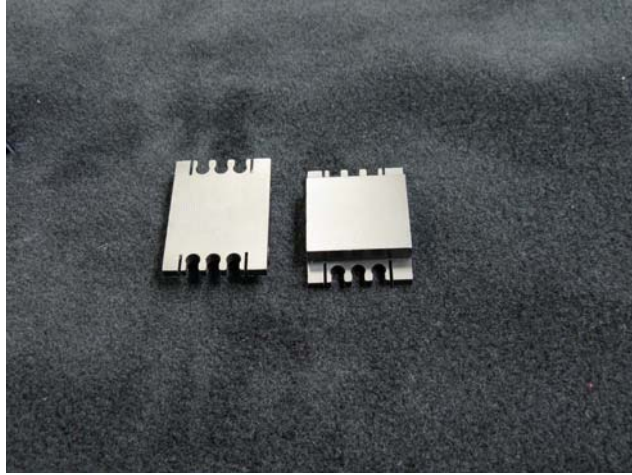

Fig. 7
- 9) When replacing the Tube Keeper it is important to orientate the part with the flat side facing out. **Figure 7**